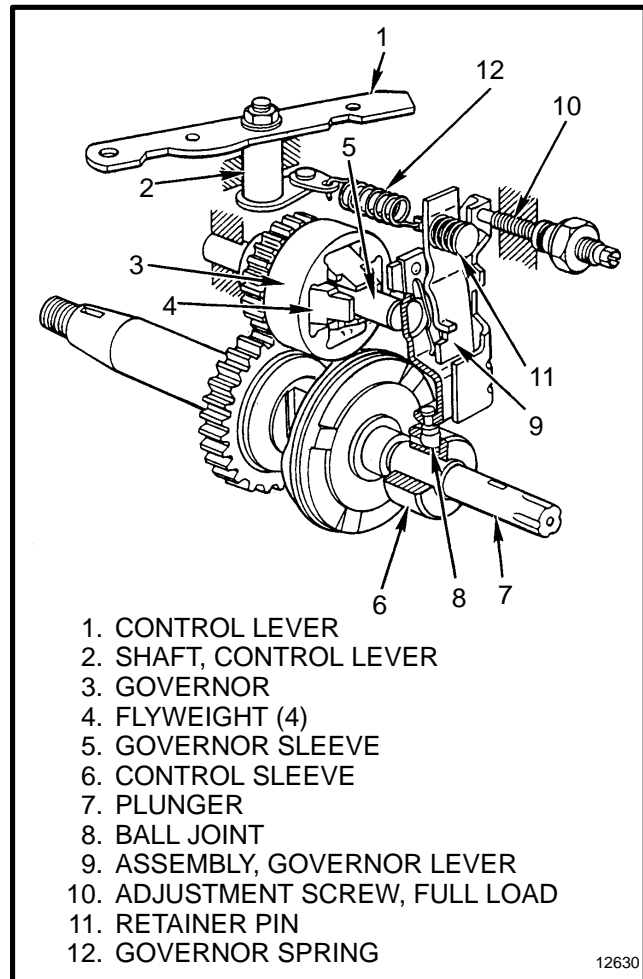

FIGURE 3. SPEED CONTROL, FUEL INJECTION PUMP, MODEL VE
See FIGURE 3. A control sleeve (6) slides on the plunger and partially opens a passage in the plunger to control the amount of fuel oil sent to the fuel injectors. This control sleeve is controlled by both the control lever and the mechanical governor. The control lever is connected to the accelerator pedal for the lift truck.